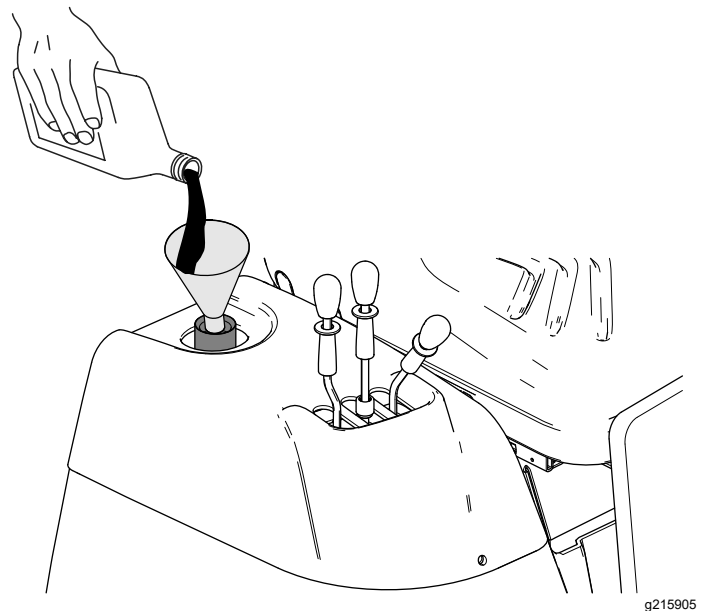

Figure 100
7. If the fluid level is below the lower mark in the dipstick, add the specified hydraulic fluid into the fill tube (Figure 100) until you can see that the fluid level is between the 2 marks the dipstick.